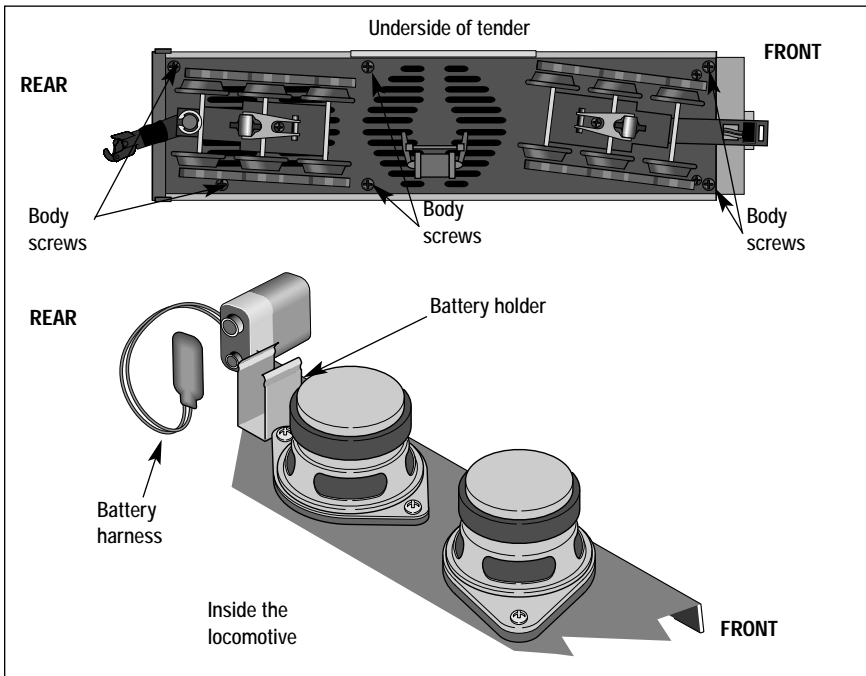

Figure 4. Battery installation
While the RailSounds 5.0 sound system is powered through the track, we recommend that you install a nine-volt alkaline battery in the tender to prevent the sound system from shutting down during track power interruptions (for example, at a switch or a dirty section of track). Follow these steps and refer to Figure 4 as you install the battery.
1. Remove the body screws from the underside of the tender. Refer to Figure 4 for the location of the screws.